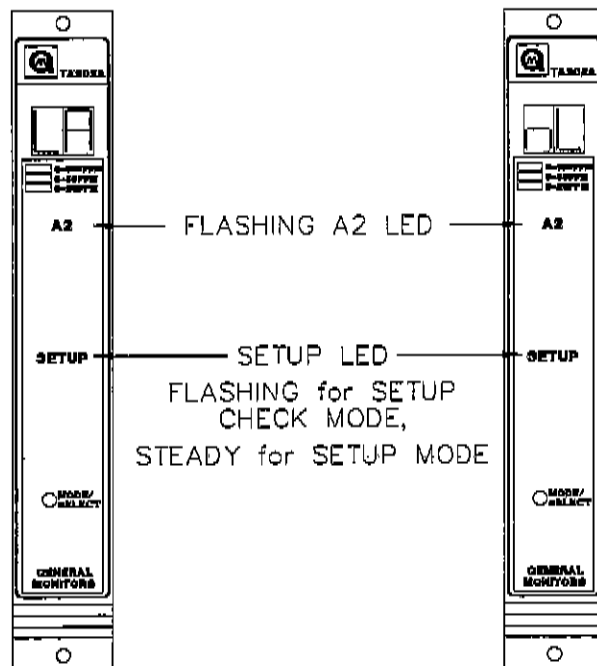

Figure 18
- The **A2** LED on the front panel will be flashing while the latching/non-latching option is displayed (figure 18). The display will indicate the current selection, (**nL** or **LA**). Latching is the factory default for this selection.